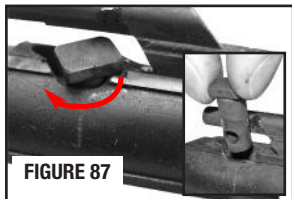

FIGURE 87
- Give the bolt cam pin a 1/4 turn and lift it out (FIGURE 87).